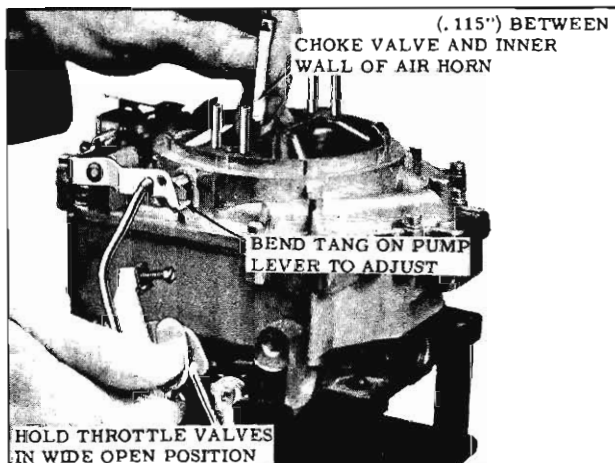

Fig. 4-29 Unloader Adjustment
2. While holding the throttle lever in the wide open position (with carburetor off car), or with accelerator pedal completely depressed (with carburetor on car), check the clearance between the top edge of the choke valve and the dividing wall. The correct clearance is .115" and can be checked with gauge BT-90. (Fig. 4-29)